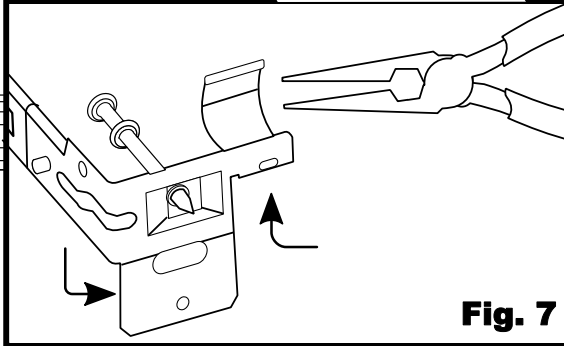

Fig. 7
1. Use pliers to bend the ends of the hanger bars. [Fig. 7]